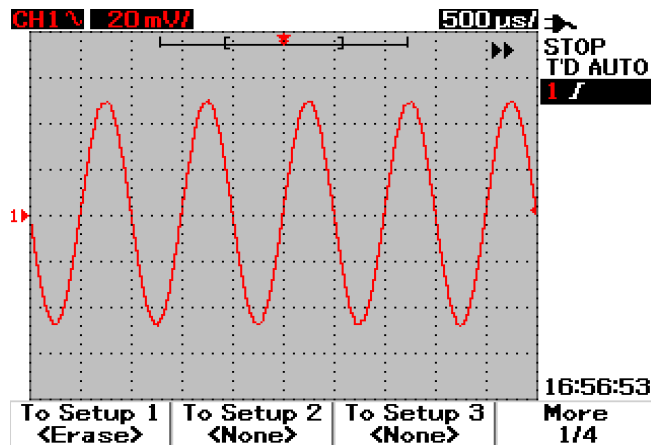

Figure 3-44 The <None> display indicates that no setup file is saved. The <Erase> in Setup 1 shows that you can erase the setup file from the internal memory.
- 4 In Figure 3-44, press F1 to erase the configuration setup from Setup 1.